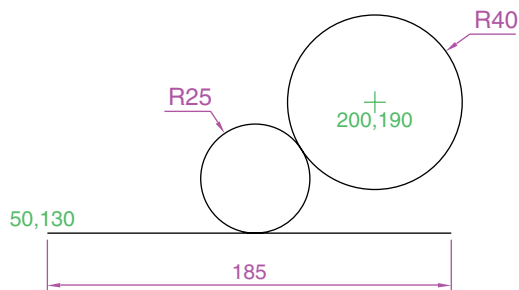

Fig. 2.32 Exercise 5
5. In an **acadiso.dwt** screen and using the **Circle** and **Line** tools, construct the line and the circle of radius 40 as given in Fig. 2.32. Then, using the **Ttr** prompt, add the circle of radius 25.